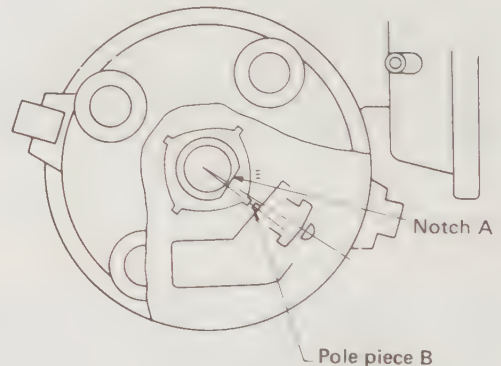
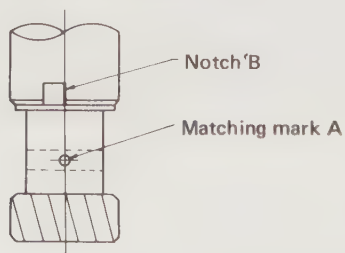

Fig. 4.9. Fitting the pinion on the shaft
Fig. 4.10. Pinion to housing alignment marks
- Assembly is the reverse of dismantling. When fitting the springs and rotor shaft, fit the spring with the longer free length to the starter hole side of the timing lever as shown in Fig. 4.8. Align the notch on the pick-up base with the grooved end of the housing. When fitting the pick-up coil, adjust the air gap to 0.012 - 0.016 in (0.3 - 0.4 mm). To refit the pinion, position notch 'A' on the rotor shaft opposite the pole piece 'B', as shown in Fig. 4.9, and align the mark 'A' on the pinion with the notch 'B' at the lower end of the housing as shown in Fig. 4.10.